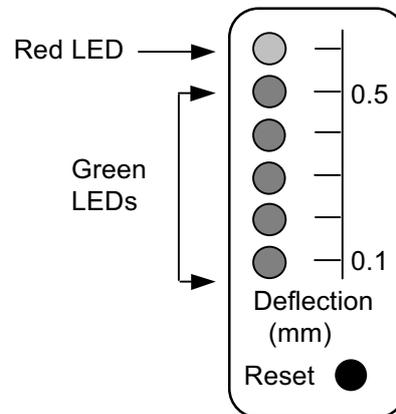

Fig. 1(d)
- (iii) The output panel for the beam testing system is shown in Fig. 1(d). Each green LED represents 0.1 mm of deflection. When the deflection is equal to 0.5 mm the red LED should also flash, the alarm sound and the hydraulic pump (which is switched by 24 volt relay) should stop to allow the beam to be inspected and readings taken from the pressure gauge. The red LED should continue to flash until reset by a switch on the panel.